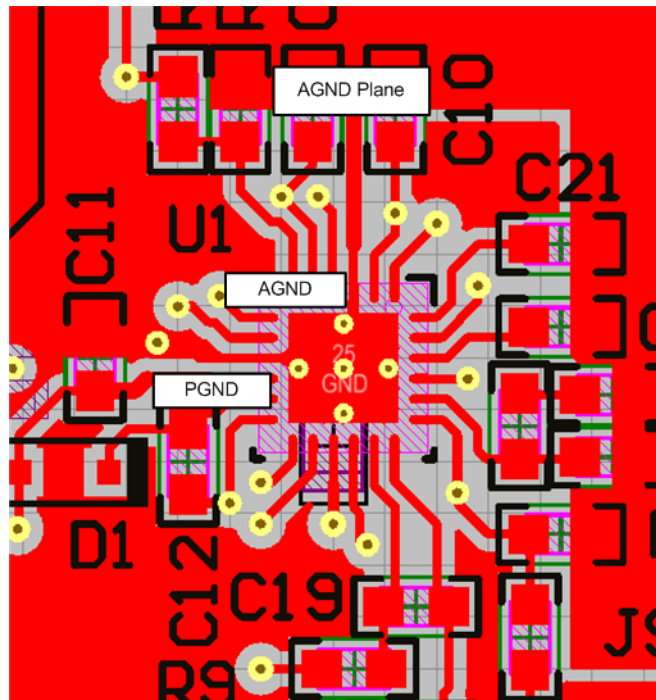

**Figure 38. EVM Top Side**
- Locate the gate drive components (D1 and C12) together and near the controller IC; refer to Figure 38. Be aware that peak gate drive currents can be as high as 4 A. Average current up to 75 mA can flow from the VCC pin to the  $V_{CC}$  capacitor through the bootstrap diode to the bootstrap capacitor. Size the traces accordingly.